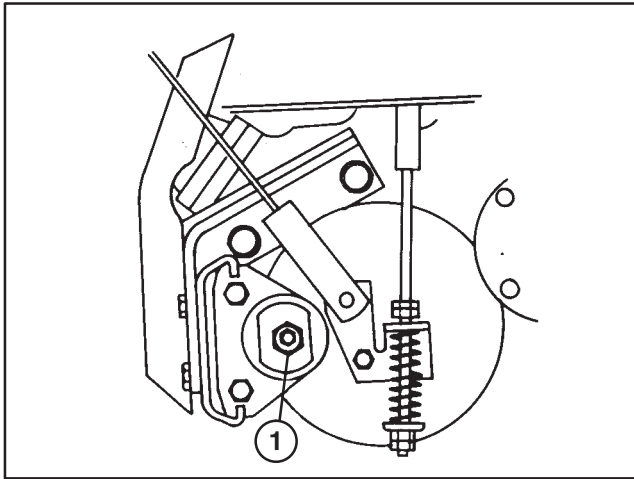

Figure 42
2. Tighten the caliper brake inboard adjustment nut (Fig. 42) until the brake disc cannot be rotated by hand.